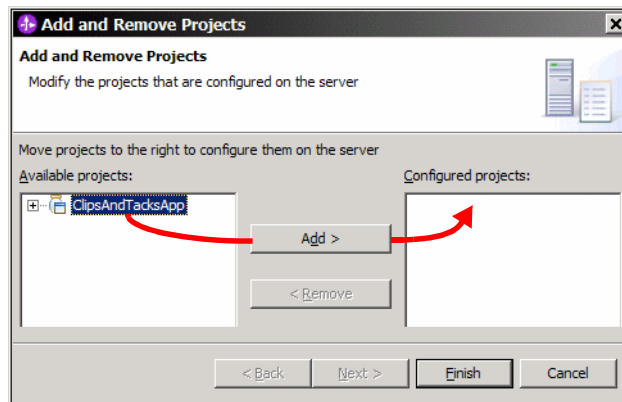

Figure 9-25 Add project to server for testing
- ▶ Select the ClipsAndTacksApp project and click *Add>* (Figure 9-25). Click *Finish* and the application is deployed. Watch the progress indicator at the bottom right.